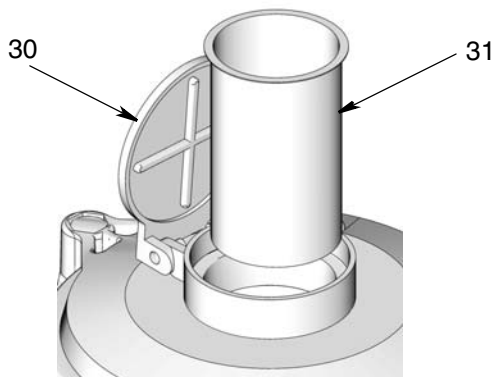

FIG. 2
- Reservoirs for oil models have a fill cap (30) and screen (31), located on top (FIG. 2).